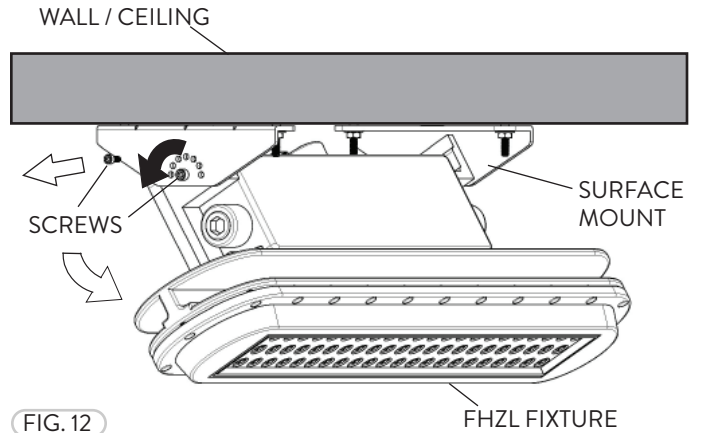

FIG. 12
- 4 Instead of having the fixture directly surface mounted at a fixed position the FHZL fixture can be adjusted by loosening the large Screws and removing the smaller Screws at the sides of the of the Surface Mount. This allows the fixture to rotate to the desired tilt angle to aim at a specific position (Fig. 12).